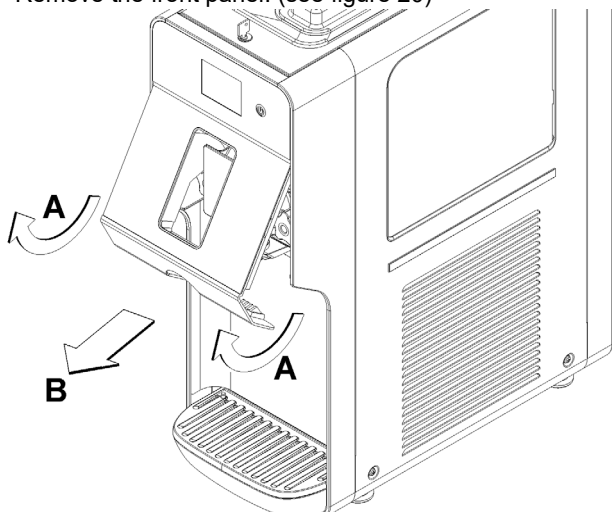

figure 20
5 Remove the front panel. (see figure 20)
- 3 Reassemble the tap assembly in the reverse order to that illustrated in Figure 20 and reposition it in its seat.